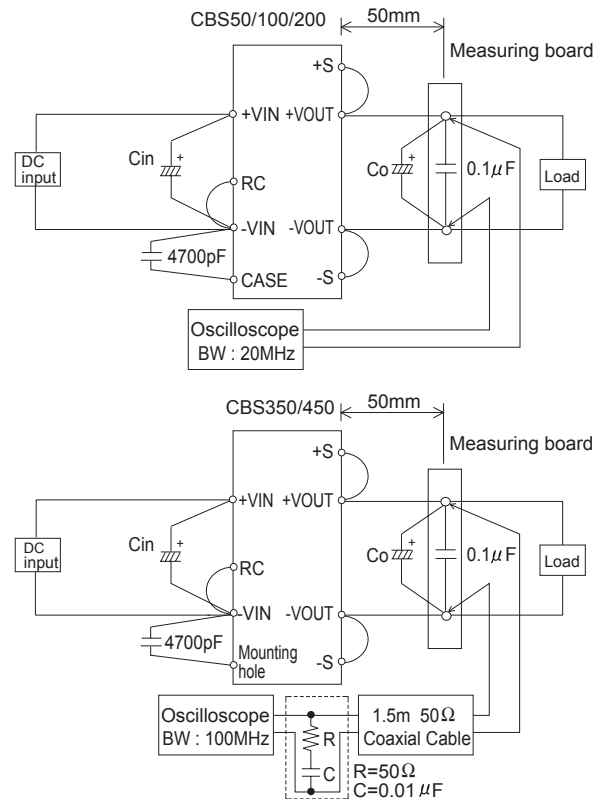

Fig.2.4 Method of Measuring Output Ripple and Ripple Noise
■ The specified ripple and ripple noise are measured by the method introduced in Fig. 2.4.